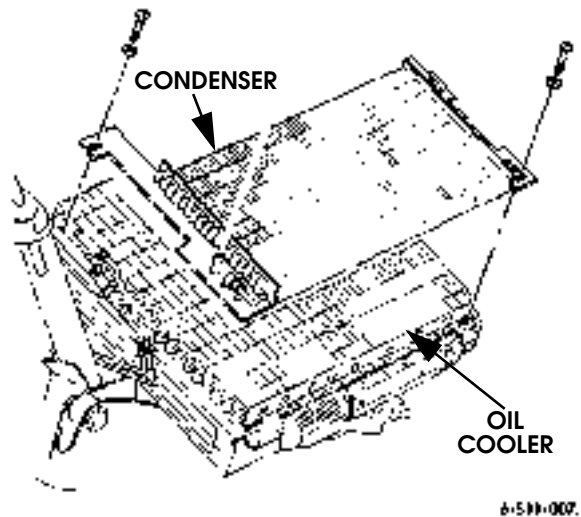

Figure 11-14: Condenser Replacement
3. Remove screws, washers, spacers, and condenser from oil cooler (Figure 11-14).
1. Secure condenser to oil cooler with spacers, washers, and screws (Figure 11-14).